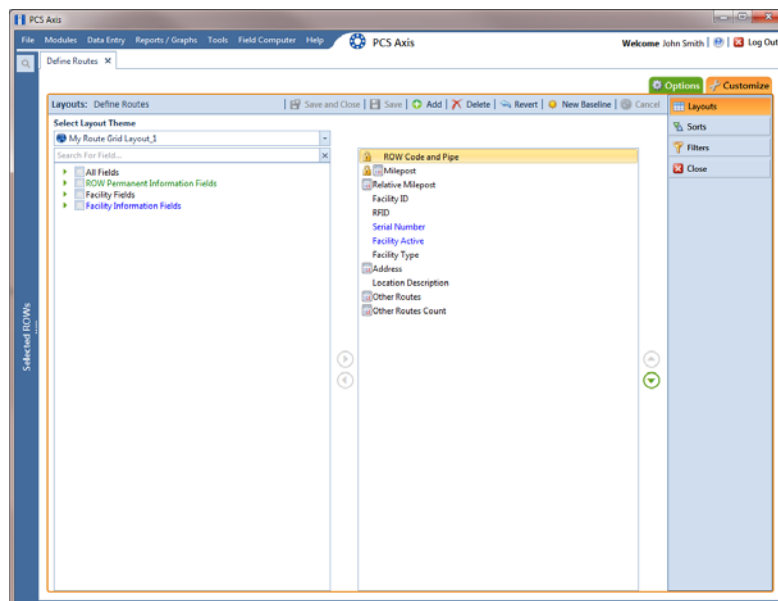

Figure 8-44. Layouts
- 7 Click  **Save** to save changes. The layout theme includes all fields listed in the right pane (Figure 8-44, page 396).